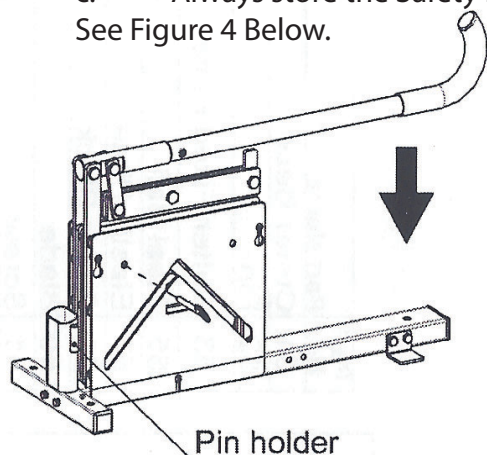

Figure 4
- c. Always store the Safety Pin in the Safety Pin Holder (see Section 4 Parts Identification).See Figure 4 Below.